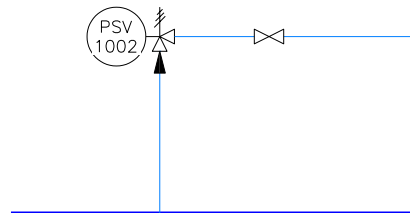

Figure 2-76 Location of the gate valve
10. Place a gate valve on the same line, as shown in Figure 2-76.